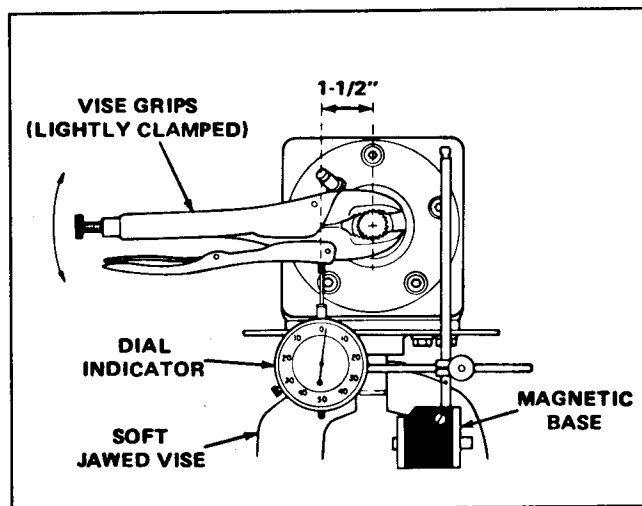

Figure 41
4. Clamp the output shaft of the gearbox in a soft-jawed vise. Lightly clamp a pair of locking pliers onto the input shaft. Mount a dial indicator with magnetic base to the vise so that the dial indicator touches against the pliers (Fig. 41). Move the locking pliers up and down to check the input gear backlash. Backlash should be .005 - .010 inch (0.13 - 0.25 mm) with the dial indicator positioned one and one-half inches (38 mm) from the center of the shaft (Fig. 41).